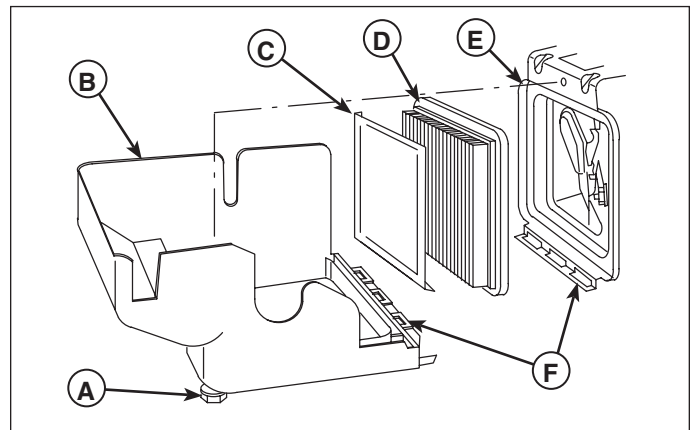

Figure 9. Change Air Filter
1. Loosen the screw (A, Figure 9) and remove the filter cover (B).
2. Inspect the pre-cleaner (C) and air filter element (D). If either are soiled, then replace.
3. Insert the new pre-cleaner (C) and air filter element (D) inside the filter cover (B). Make sure the arrows on the filter element are pointed up, and the lip of the pre-cleaner covers the bottom filter pleats.
4. Insert the cover tabs (F) into the filter base slots.
5. Tilt the cover up into place and tighten the screw (A).